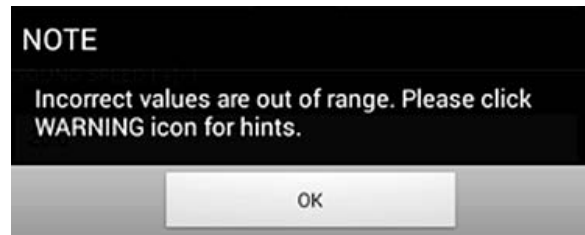

Figure 137: Out of Limits Message
7. There is an acceptable range for each of the parameters entered in this menu. If you enter a value outside of these limits a message similar to *Figure 137* below is displayed.